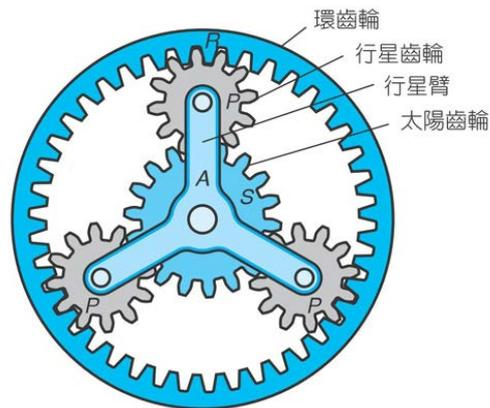

Fig. 2
4. A planetary gear train shown in Fig. 2 is used as part of a transmission for a forklift truck. The sun gear (太陽齒輪) is driven by the engine at 3000 rpm, the ring gear (環齒輪) is bolted to the machine frame, and the arm (行星臂) is connected to the track drive system. The sun has 16 teeth, the ring has 84 teeth, and there are three planets (行星齒輪), each with 34 teeth. Please show the angular velocities of the arm and planet. (20%)